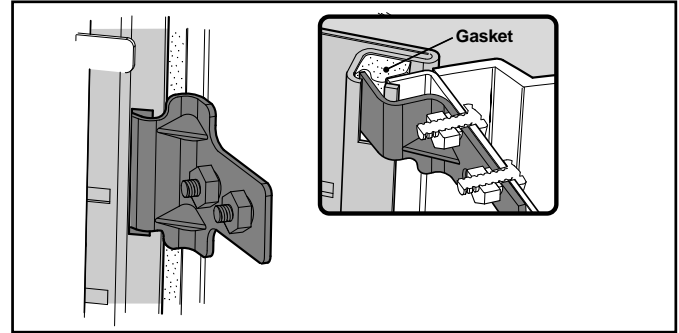

Figure 12
Step 2: Insert tabs into cabinet slots. Edge of door should fit into channel against gasket (see detail). See Figure 12.